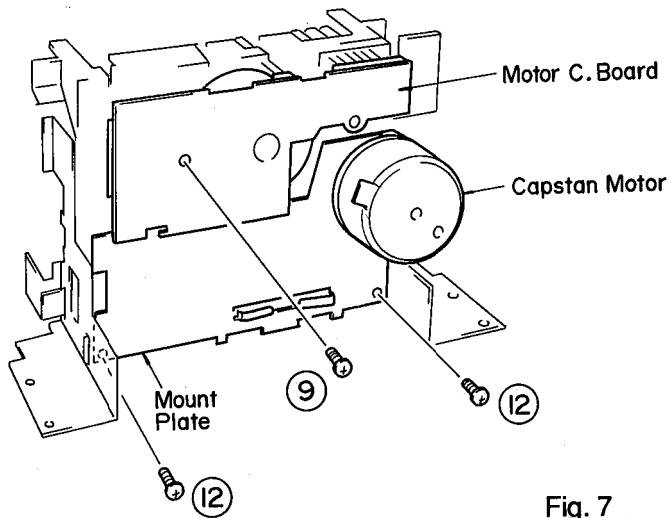

Fig. 7
- d. Remove the reel motor and the motor circuit board by removing the screw (⑨) in fig. 7.
- d. Remove the motor mount plate by removing the 2 screws (⑫) in fig. 7.